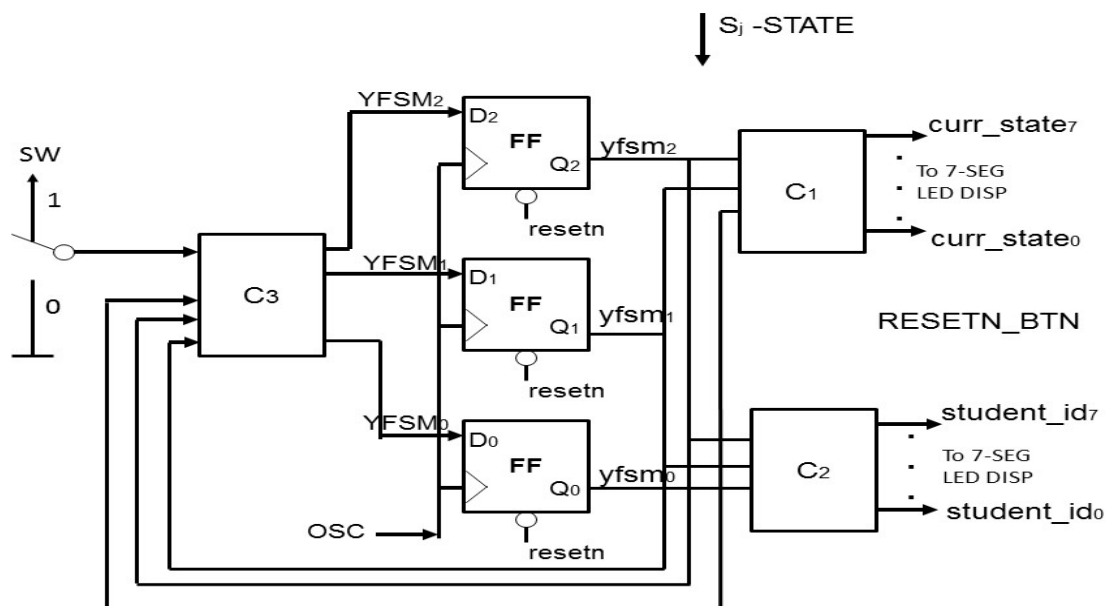

Figure 3 Finite State Machine
3. Design the logic equations for each of the Flip-Flop inputs described in Figure 3.